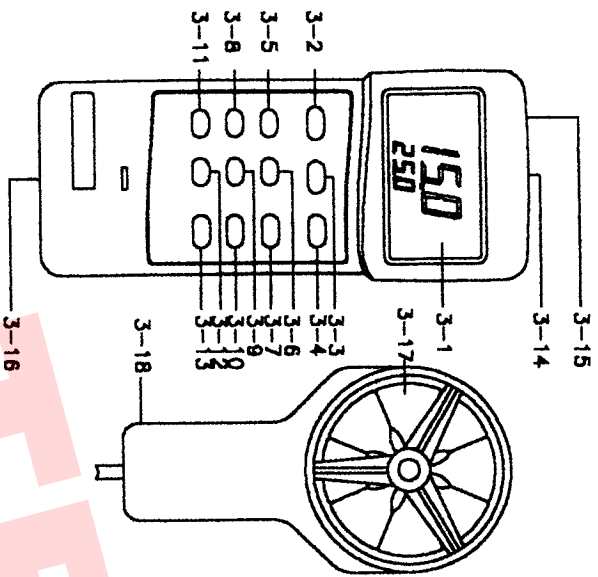

Fig. 1
- 1) Install the "Probe Plug" into the "Probe Input Terminal" (3-14, Fig. 1).
- 2) Power on the meter by pressing the "Power OFF/ON Button" (3-2, Fig. 1).
- 3) Select VELOCITY measuring mode by pressing "VEL./FLOW Button" (3-7, Fig. 1) to get into velocity measuring mode.
- 4) Select the desired temperature units, by pressing the "°C/°F Conversion Button" (3-4, Fig. 1).
- 5) Select the desired air velocity measurement units, (mph, ft/min, knot, Km/h, m/s) by pressing the "Unit/▼ Button" (3-6, Fig. 1).
During the measuring procedure, pressing the "Data Hold Button" (3-3, Fig. 1) will hold the measured value and the LCD will indicate "HOLD" symbol on the left.
* Press the "MAX/MIN/Record Button" (3-5, Fig. 1) once a while to get into Data Record mode. A "REC" symbol appears on the LCD display. At the same time meter records value received by probe.
- 2) Power ON the meter by pressing the "Power OFF/ON" Button (3-2, Fig. 1).
- 3) Select FLOW measuring mode by pressing "VEL./FLOW" Button (3-7, Fig. 1) to get into flow measuring mode.
- 4) Select the desired air velocity measurement units, (CFM or CFM) by pressing the "Unit/▼" Button (3-6, Fig. 1).
- 5) Press "SAMPLE AREA" Button (3-13, Fig. 1) to set the measuring area (m^2 , ft^2) The more accurate area setting is the more accurate air flow value measured. When you press the button you may see a "□" symbol appears and the first digit sparkling. Now you can continue the area setting procedure.
- 6) Area setting procedure uses four buttons "▲", "UNIT/▼", "▶" and "MAX/MIN/." (please refer to Fig. 1 page 4)
The instrument features an RS232 output via 3.5 mm Terminal (3-15, Fig. 1).
- 2) Slide the Battery Cover (3-16, Fig. 1) away from the instrument and remove the battery.